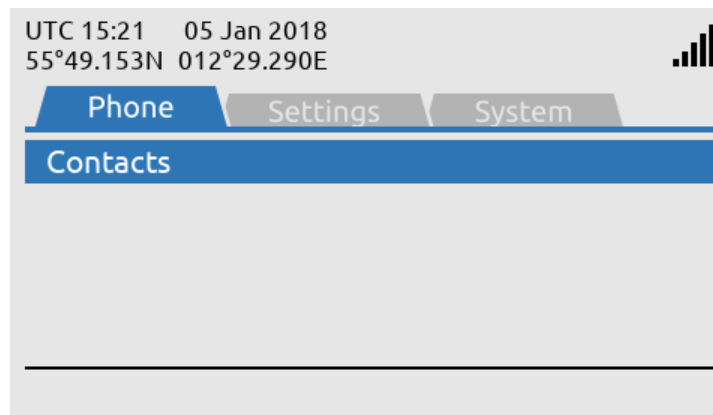

Figure 24: LT-3110 Control Unit - UI display (main menu).
- **MENU button:** The MENU button is used to open the main menu, as illustrated in Figure 24. The BACK, arrows, and ENTER buttons are used to navigate in the menu layout. Press the MENU button to exit the menu from anywhere in the menu tree (instead of multiple BACK button presses).
The LT-3100 system’s main menu is accessed by pressing the MENU button on the keypad. The user will be presented with a layout as illustrated in Figure 24.